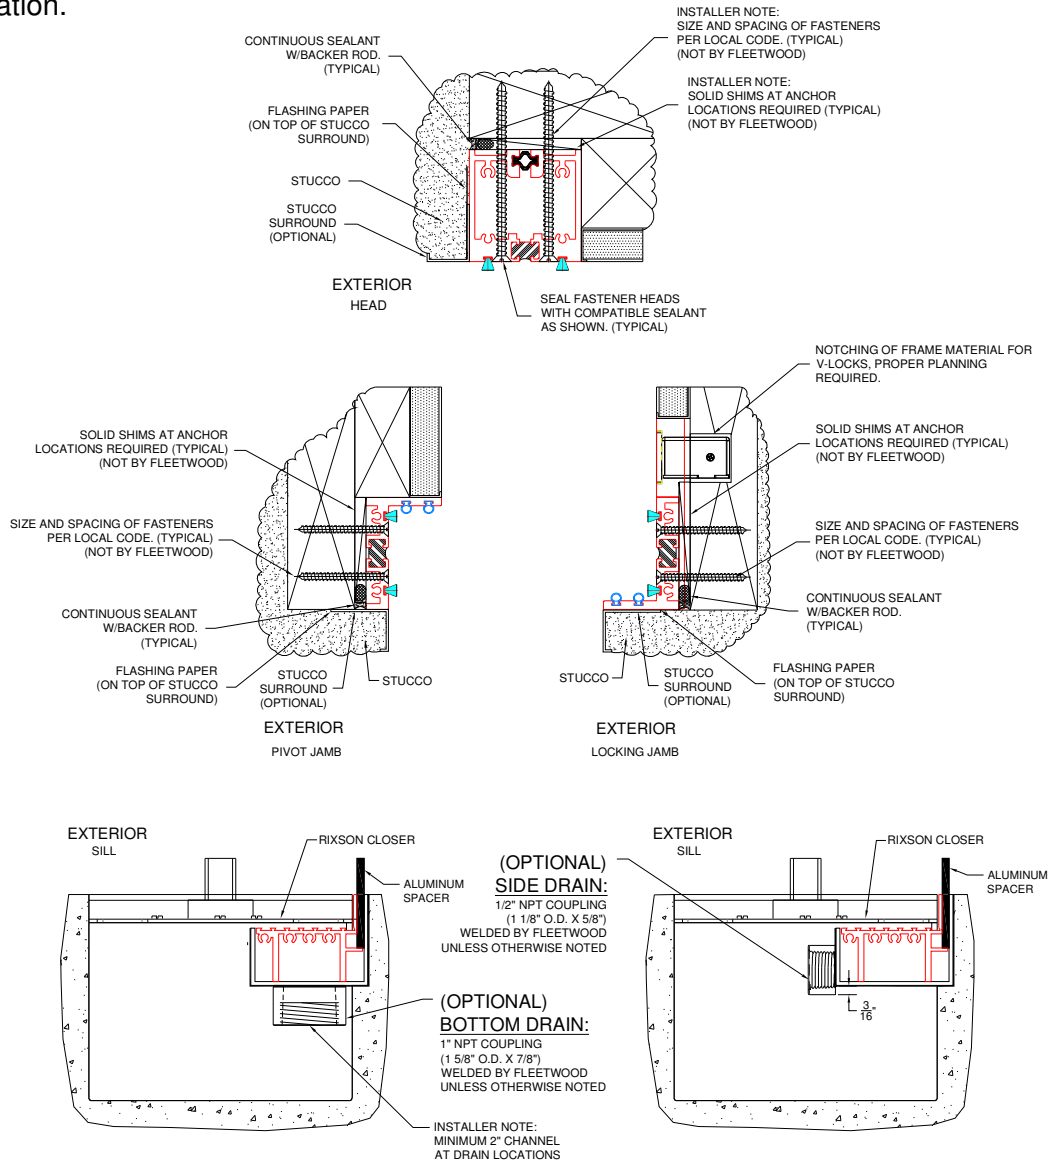

Figure 6:
8. To complete the panel installation, apply backer rod and a complete bed of sealant to the entire exterior and interior joint between the frame and the building structure. Tool the sealant to eliminate bubbles, voids and / or breaks and ensure a completely watertight seal (Figure 6).